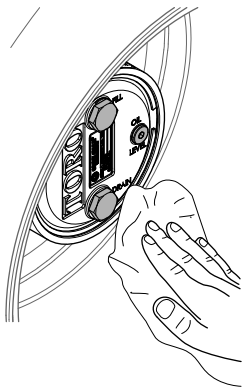

Figure 95
3. Wipe clean the planetary and brake housings (Figure 95).